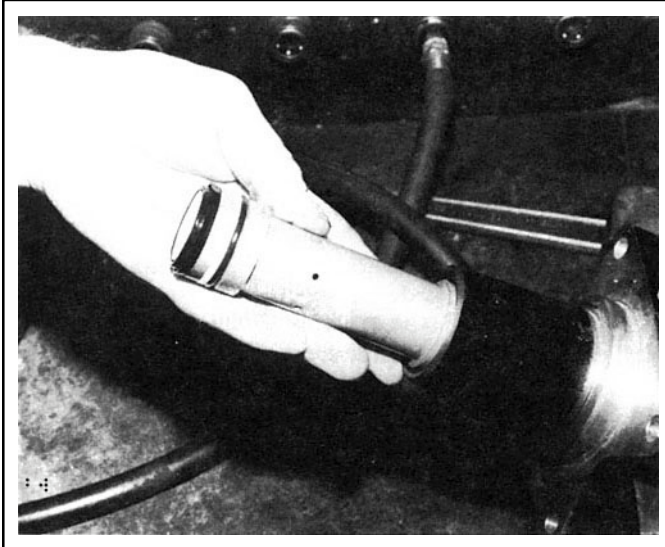

FIGURE 6
3. Install the new o-ring (2) on the cap nut after lubricating with the fluid to be used in the master cylinder or Dow Corning 55-M pneumatic grease. Thread the cap nut in the adapter block and torque to 300 inch pounds.
4. Coat the new compensating seal (5) with fluid or Dow Corning 55-M pneumatic grease and install in mating grooves in bottom of adapter block or reservoir.
5. Coat bore in master cylinder with fluid to be used, place spring (4) in piston assembly (1) and slide both into bore of master cylinder (fig. 6).